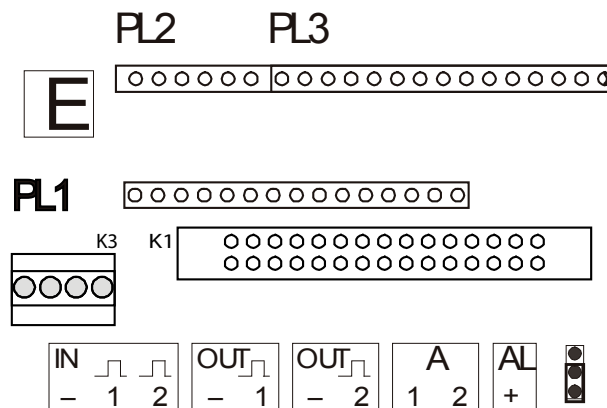

Fig. 2, F22 connection terminal
2. Cut the power by disconnecting the large black connector "K1" and the four-pole connector "K3", cf. Fig.2.